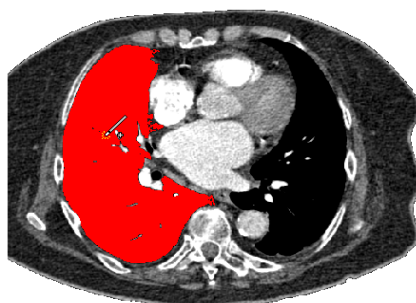

Figure 268 – Defining an area using the Magic wand drawing tool
7. Press and hold down the left mouse button to define the starting point and from there, drag the cursor to demarcate the area what you want to define. The further you drag the cursor away from the starting point, the wider the color range will be (see Figure 268).